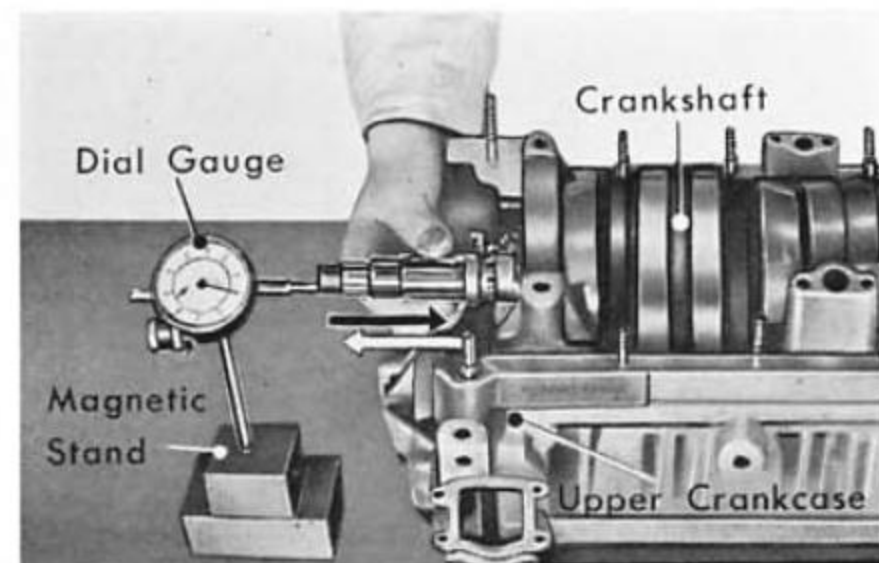

Fig. 1L-6
3. Disassemble front bearing by removing circlip, washer, bearing holder, bearing retainer and rollers (Fig. 1L-3).